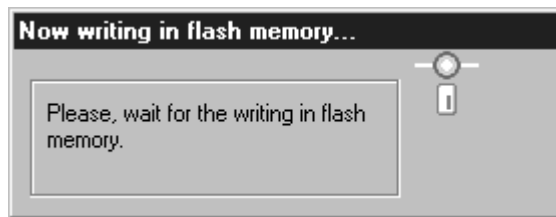

Fig. 3.12 Writing to Flash Dialog Box
Click the **Option** Button from the Main Window and then click the **Write in flash memory** Button (one of the expansion function buttons) to display the Connected CPU Specification Dialog Box\*1. Click the **OK** Button in this dialog box to display the Logon Dialog Box\*2. Input the user name and the password and click the **OK** Button to display the Writing to Flash Dialog Box (see *Fig. 3.12*).
6. The Writing to Flash Dialog Box shown in *Fig. 3.12* is displayed.